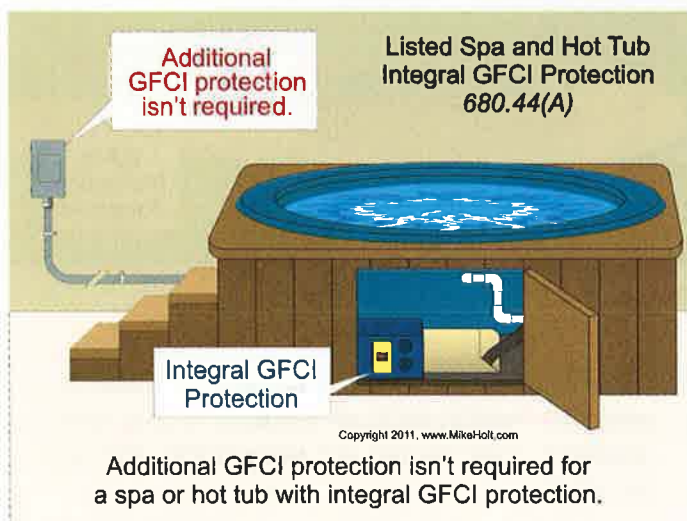

Figure 680-45
(A) Listed Units. Additional GFCI protection isn't required for a listed self-contained spa or hot tub unit or listed packaged spa or hot tub assembly marked to indicate that integral GFCI protection has been provided for electrical parts within the unit or assembly. **Figure 680-45**